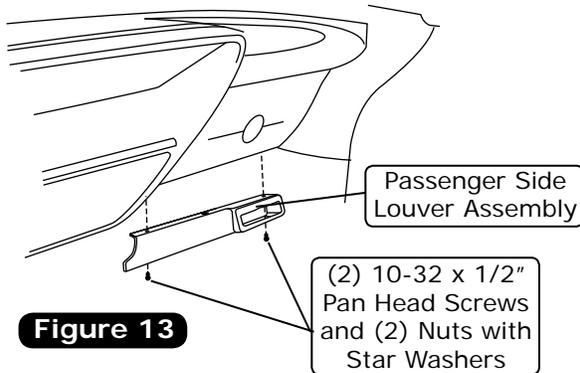

Figure 13
2. Secure the louver bezel under the dash using (2) 10-32 x 1/2" pan head screws and (2) 10-32 nuts with star washers (See Figure 13, below).